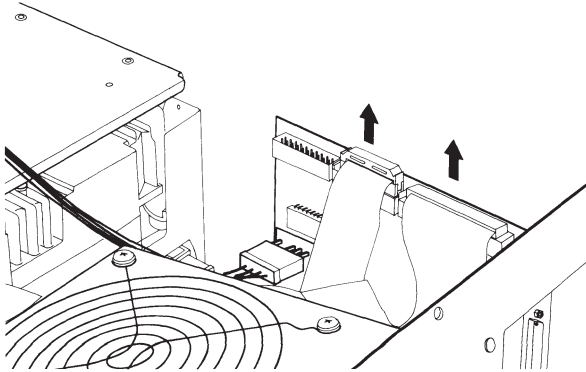

Figure 7-50. Removing Signal Cables from an External Interface Adapter Board.
2. Disconnect the 20- and 34-pin signal cables from the external interface adapter board in the fixed disk drive expansion unit (Figure 7-50).